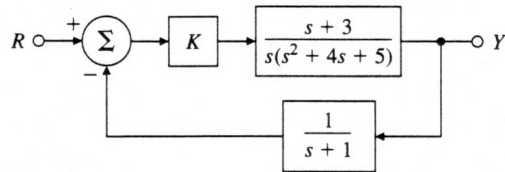

Figure 5.59: Feedback system for problem 5.21
21. Consider the system in Fig. 5.59.